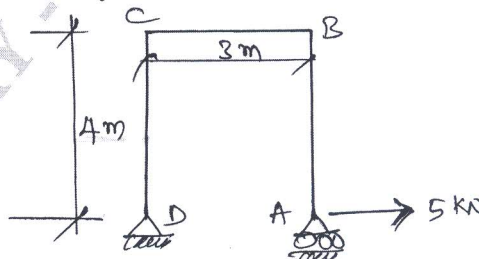

Fig.Q6(a)
- 6 a. Determine the horizontal displacement of the roller support end A of the frame shown in Fig.Q6(a), take  $EI = 8000 \text{ kN-m}^2$  by unit load method.